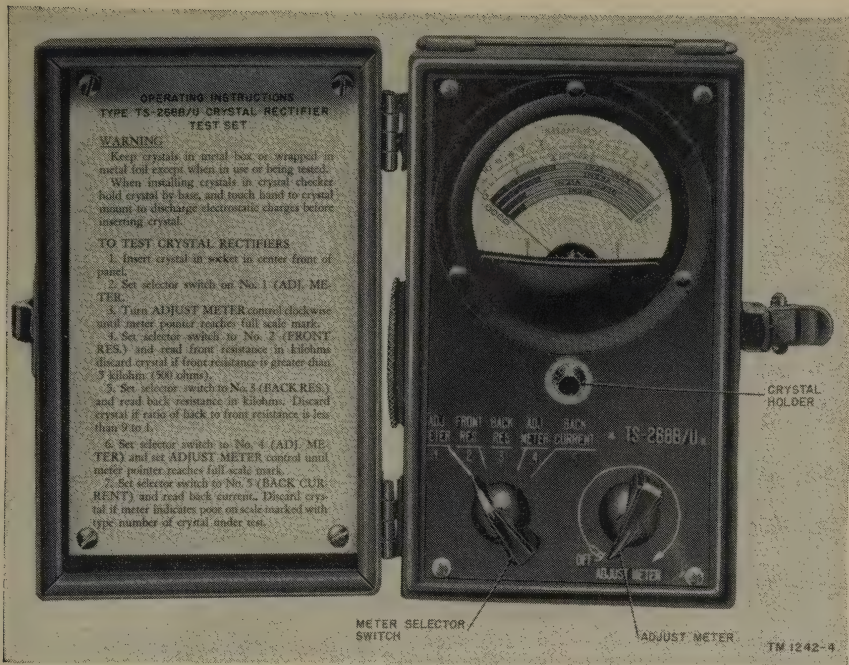

Figure 5. Crystal Rectifier Test Set TS-268B/U, front panel view.
a. Crystal Rectifier Test Set TS-268(*)/U (fig. 5) is powered from a 1.5-volt dry battery mounted within the case. It has a 0- to 1-ma (milliampere) d-c (direct-current) meter for indications of good or poor crystals. It has a rotary selector switch, meter adjust potentiometer, and crystal socket holder on the front panel. All circuit components are mounted beneath this panel.